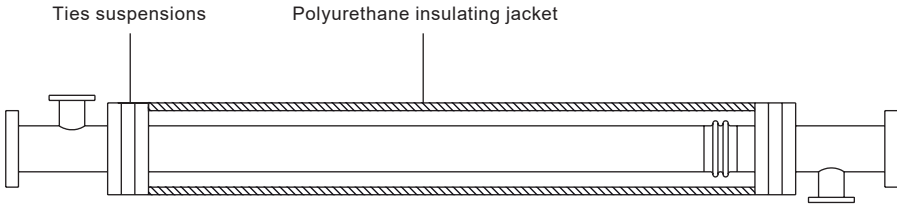

Fig. 9
- 4.9** Figure 9 illustrates the possible tubing connections. It is also acceptable to use large bended tubes or flexible connections.
- 4.10** To protect the expansion joint from external damage and optimise energy consumption, it is advisable to use a polyurethane insulating jacket as shown in Figure 9.